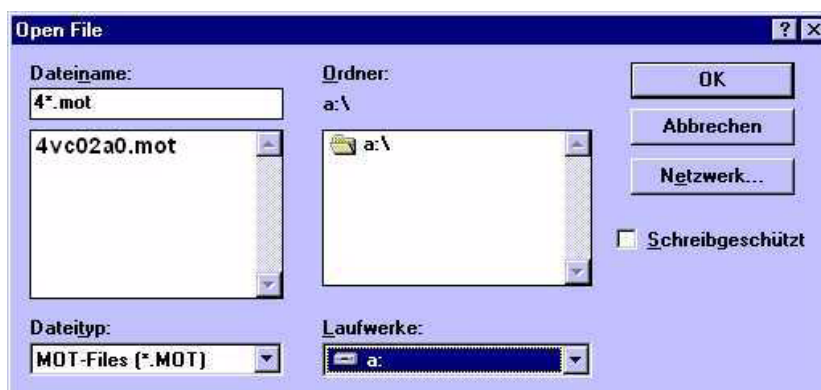

Fig. 5
- The "Open File" program window (Fig. 5) is opened.
- With all other types of Memoskop, select the file xVC02A0.mot (Fig. 5).